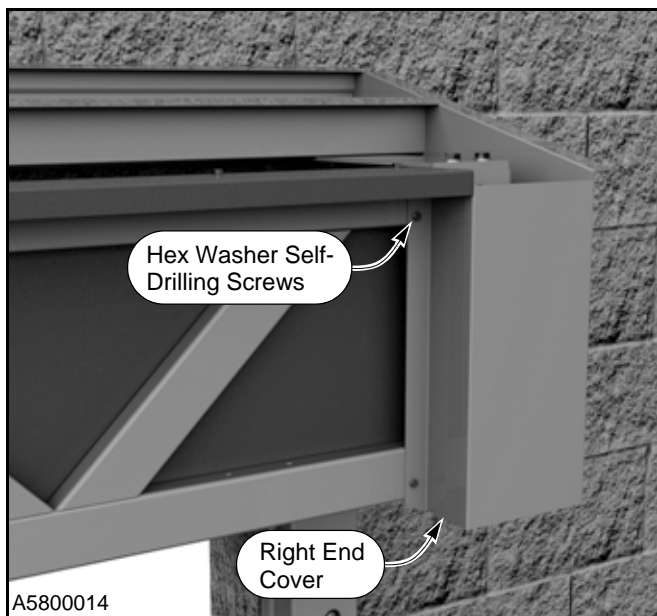
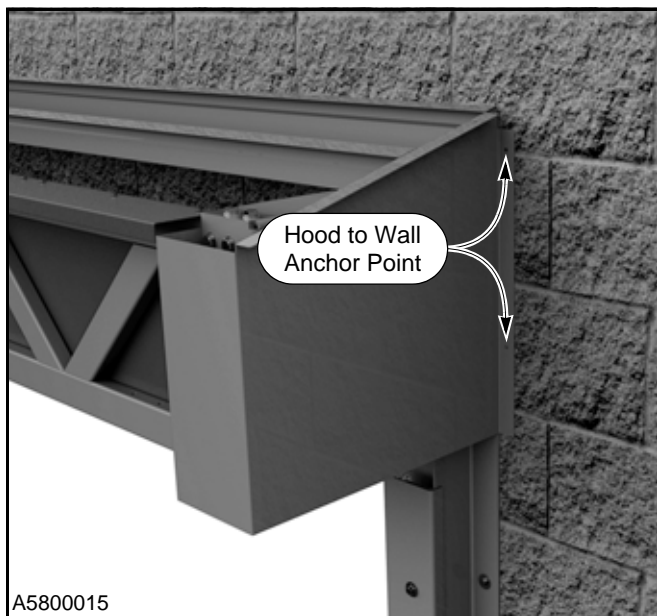

Figure 38
Figure 39
4. Attach right head assembly end cover onto the front truss assembly. Use $\frac{1}{4}$ -14 x $\frac{3}{4}$ -in. hex washer self-drilling screws. (See Figure 38 and Figure 39.)